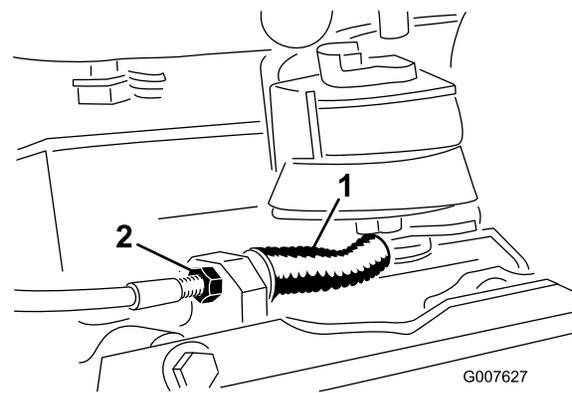

Figure 33
- To decrease the cable tension, loosen the front cable jam nut and tighten the rear jam nut (Figure 33). Repeat steps 1 and 2 and readjust if required.
- To increase the cable tension, tighten the front cable jam nut and loosen the rear jam nut (Figure 33). Repeat steps 1 and 2 and readjust if required.